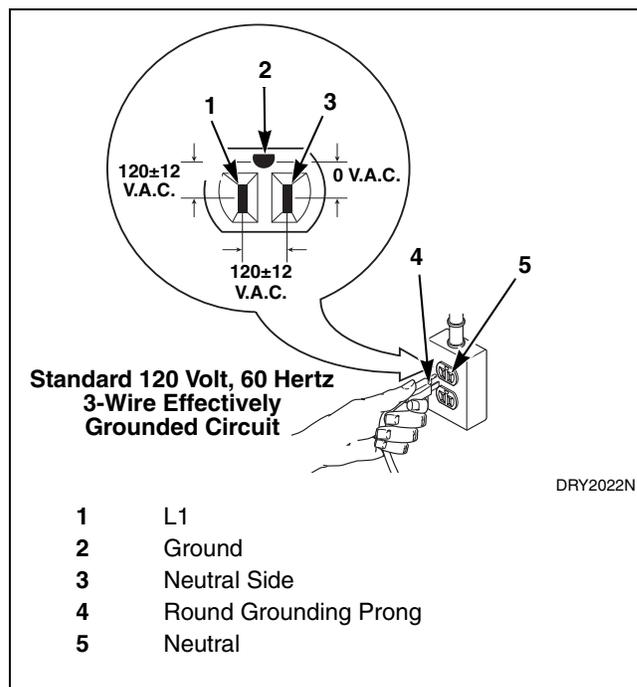

Figure 31
The three-prong grounding plug on the power cord should be plugged directly into a polarized three-slot effectively grounded receptacle rated 110/120 Volts AC (alternating current) 15 Amps. Refer to *Figure 31* to determine correct polarity of the wall receptacle.
**NOTE: Have a qualified electrician check the polarity of the wall receptacle. If a voltage reading is measured other than that in *Figure 31*, the qualified electrician should correct the problem.**